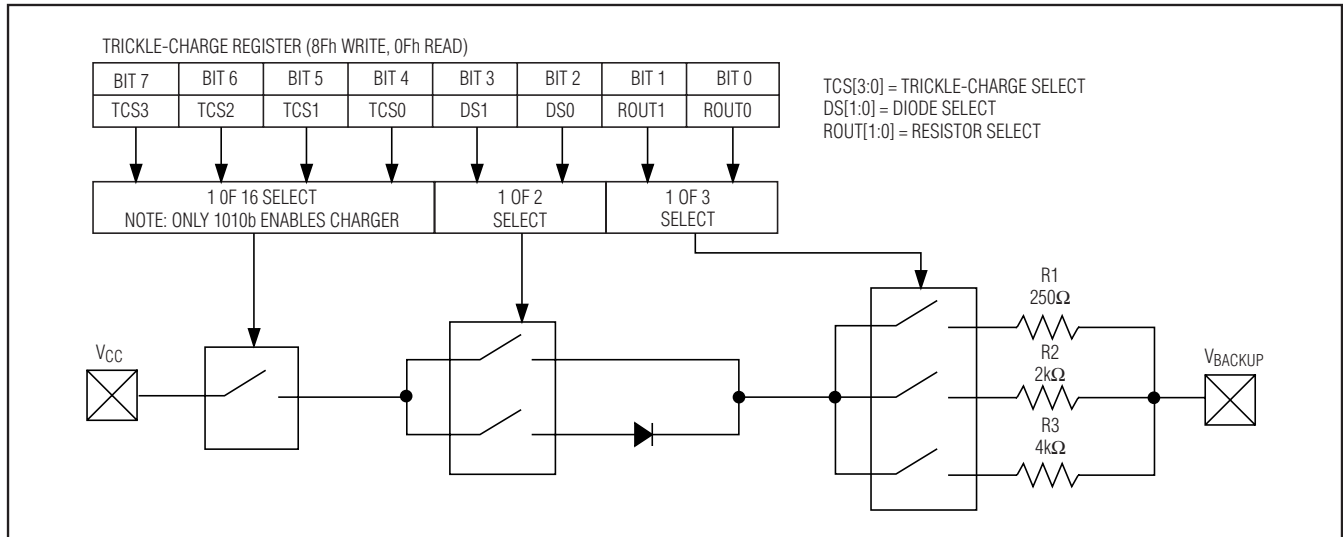

Figure 8. DS1390-DS1394 Programmable Trickle Charger
The simplified schematic in Figure 8 shows the basic components of the trickle charger. The trickle-charge select (TCS) bits (bits 4 to 7) control the selection of the trickle charger. To prevent accidental enabling, only a pattern on 1010 enables the trickle charger. All other patterns disable the trickle charger. The trickle charger is disabled when power is first applied. The diode-select (DS) bits (bits 2 and 3) select whether or not a diode is connected between VCC and VBACKUP. If DS is 01, no diode is selected or if DS is 10, a diode is selected. The ROUT bits (bits 0 and 1) select the value of the resistor connected between VCC and VBACKUP. Table 5 shows the resistor selected by the resistor-select (ROUT) bits and the diode selected by the diode-select (DS) bits.